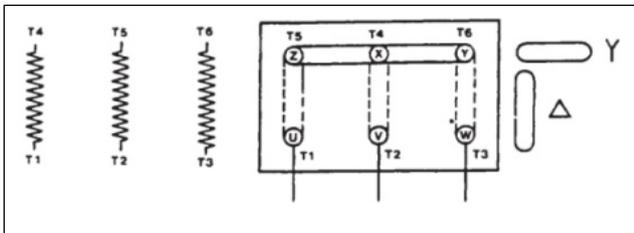

Fig. 14. Connection of motor.
2. Check the motor plate (point B) for a correct voltage and connection type (Y or Δ , Fig. 14).